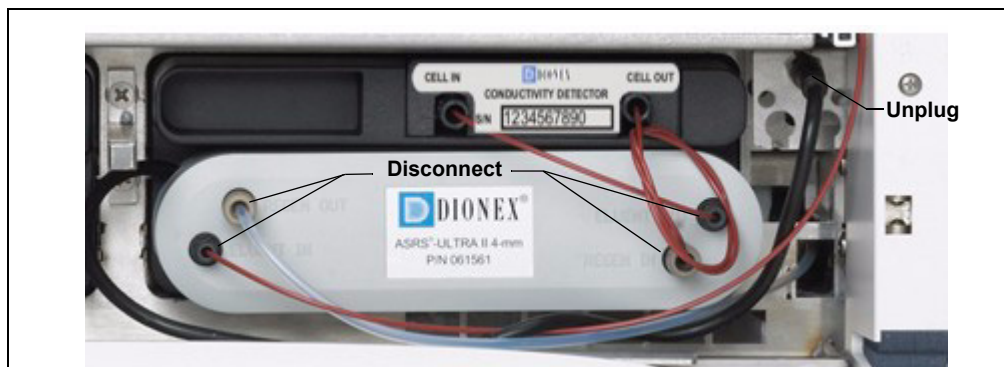

Figure 9-30. Disconnecting the Suppressor Liquid Lines and Cable
5. Disconnect the two eluent and the two regenerant lines from the suppressor (see Figure 9-30).
8. Orient the new suppressor with the **ELUENT IN** fitting on the bottom (see Figure 9-30). Press the suppressor against the back of the detector and then slide it to the right to secure it onto the mounting tabs. Pull out slightly on the center of the suppressor to verify that it is securely fastened.